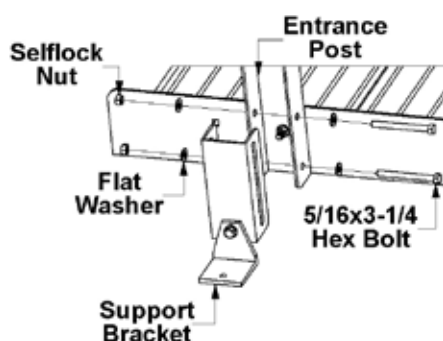

Fig.4.6
*Note: Place Entrance Posts at base of bottom ramp as shown in **Fig.4.6** found on page 18.*
4.2.1 Entrance Assembly: Locate the left and right entrance handrail assemblies. Match the entrance posts with single hole at the beginning of entrance section (**Fig.4.6**) and attach in the same manner as all handrail posts (found in **Section 4.2**, pg. 17). Continue installing any additional handrail assemblies for bottom ramp run (go to **Section 4.2 & 4.3**; repeat as needed). To attach the support bracket to the entrance post place the support bracket channel over entrance post. With one side of the support bracket channel sitting to the inside of the entrance post and the other to the outside of the entrance post, align the slotted holes in the support bracket with the two holes in the entrance post; run a 5/16x3-1/4 hex bolt through all and fasten with a washer and selflock nut on both sides (**Fig.4.6**), do not tighten all of the way down.